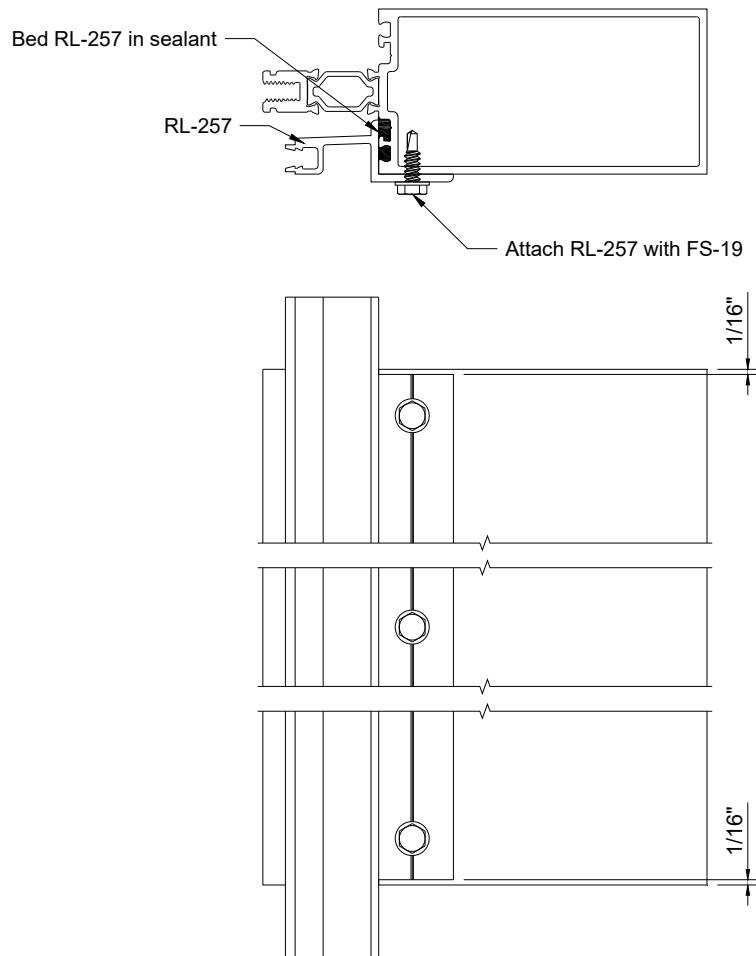

Figure 43: RL-257 Expansion Gasket Receiver Attachment
- 14.5 While sealant is still wet, apply **RL-257** and bed in sealant, per *Figure 43*.